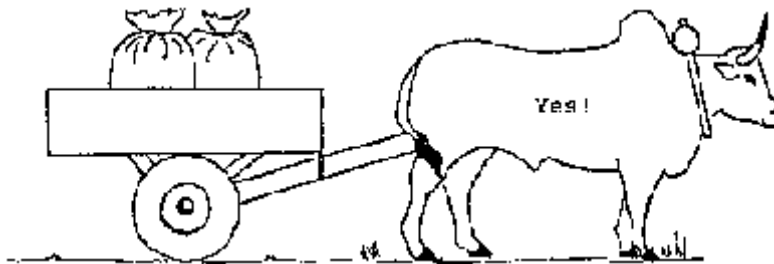

Fig 14 The load is well balanced on top of the wheels. Your animal will feel fine when pulling.
- **The cart** (fig. 14): The cart consists of the iron frame with the loading platform, the axle with the wheels, the break system and the beam, to attach it to the harness. The cart is used for transportation. The cart makes transportation easy and fast. You don't have to carry things on your head again. Don't use the draft animal more than 4 hours a day for transportation. The maximum load depends on the materials used for the construction and type of animal used. Do not in any event exceed 500 kg. Start loading in the middle of the cart. Extend at both ends evenly. Always balance the load you are putting on your cart as it is shown on the following figures.